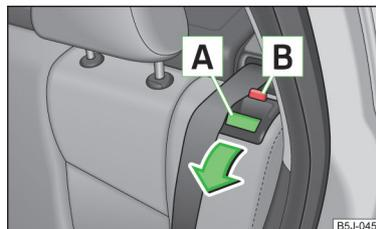

Fig. 57
- Unlock the seat backrest by pressing the securing knob **A** » Fig. 57 and fold it forwards.